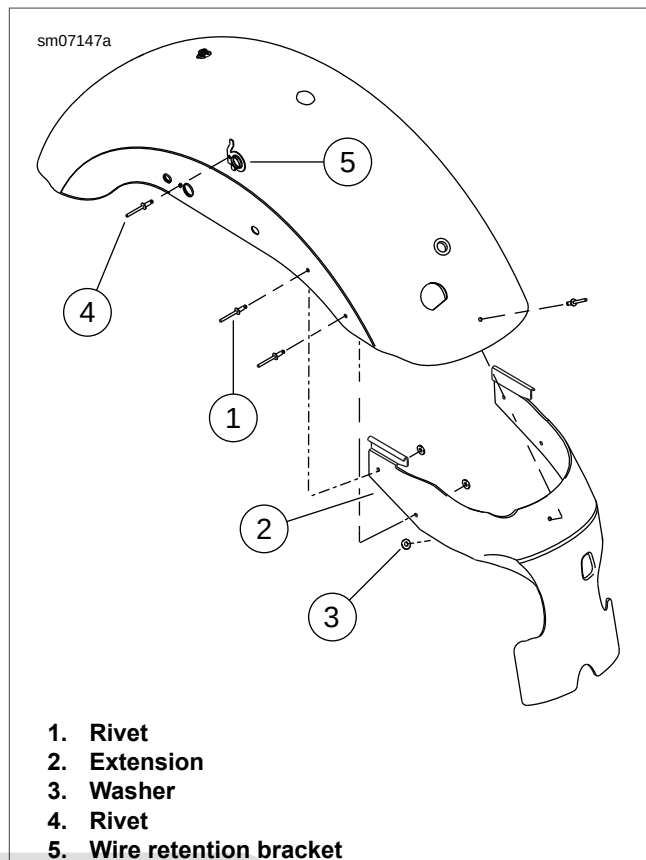

Figure 2-204. Fender Extension
1. See Figure 2-204. Drill out rivets (1) securing rear fender extension (2) to fender with a 1/4 drill bit.
2. Rivet fender extension to fender backed by a washer (3).
1. See Figure 2-204. Drill out rivets (4) securing wire retention brackets (5) with a 1/4 in drill.